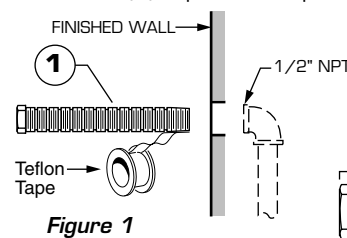

Figure 1
- Figure 1.** Apply Teflon tape (provided) to the end of the PIPE NIPPLE (1).